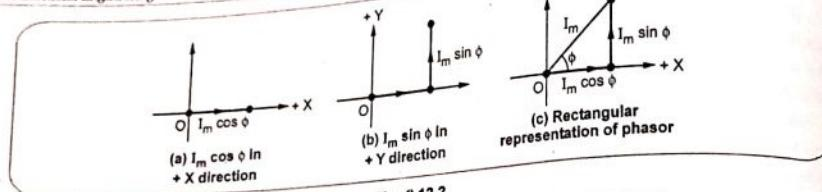

Fig. 2.12.2
- Thus to represent the phasor, travel ( $I_m \cos \phi$ ) in +X direction then travel ( $I_m \sin \phi$ ) in +Y direction. Joining final point to origin gives the required phasor OA as shown in the Fig. 2.12.2.